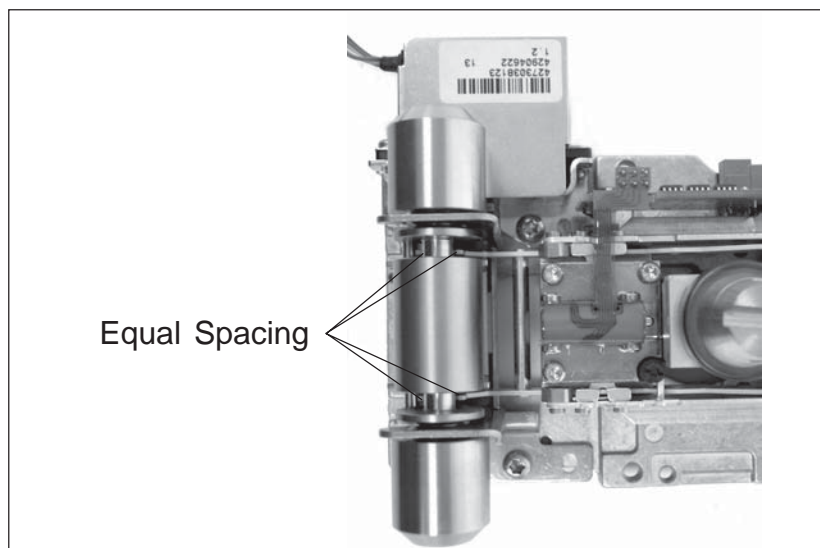

Figure 3-33. Centering InCal Weight.
5. See Figure 3-33 and make sure the InCal Weight is lined up properly as shown on the InCal Weight Arm. The Weight must be centered in the slots of the InCal Weight Arm.